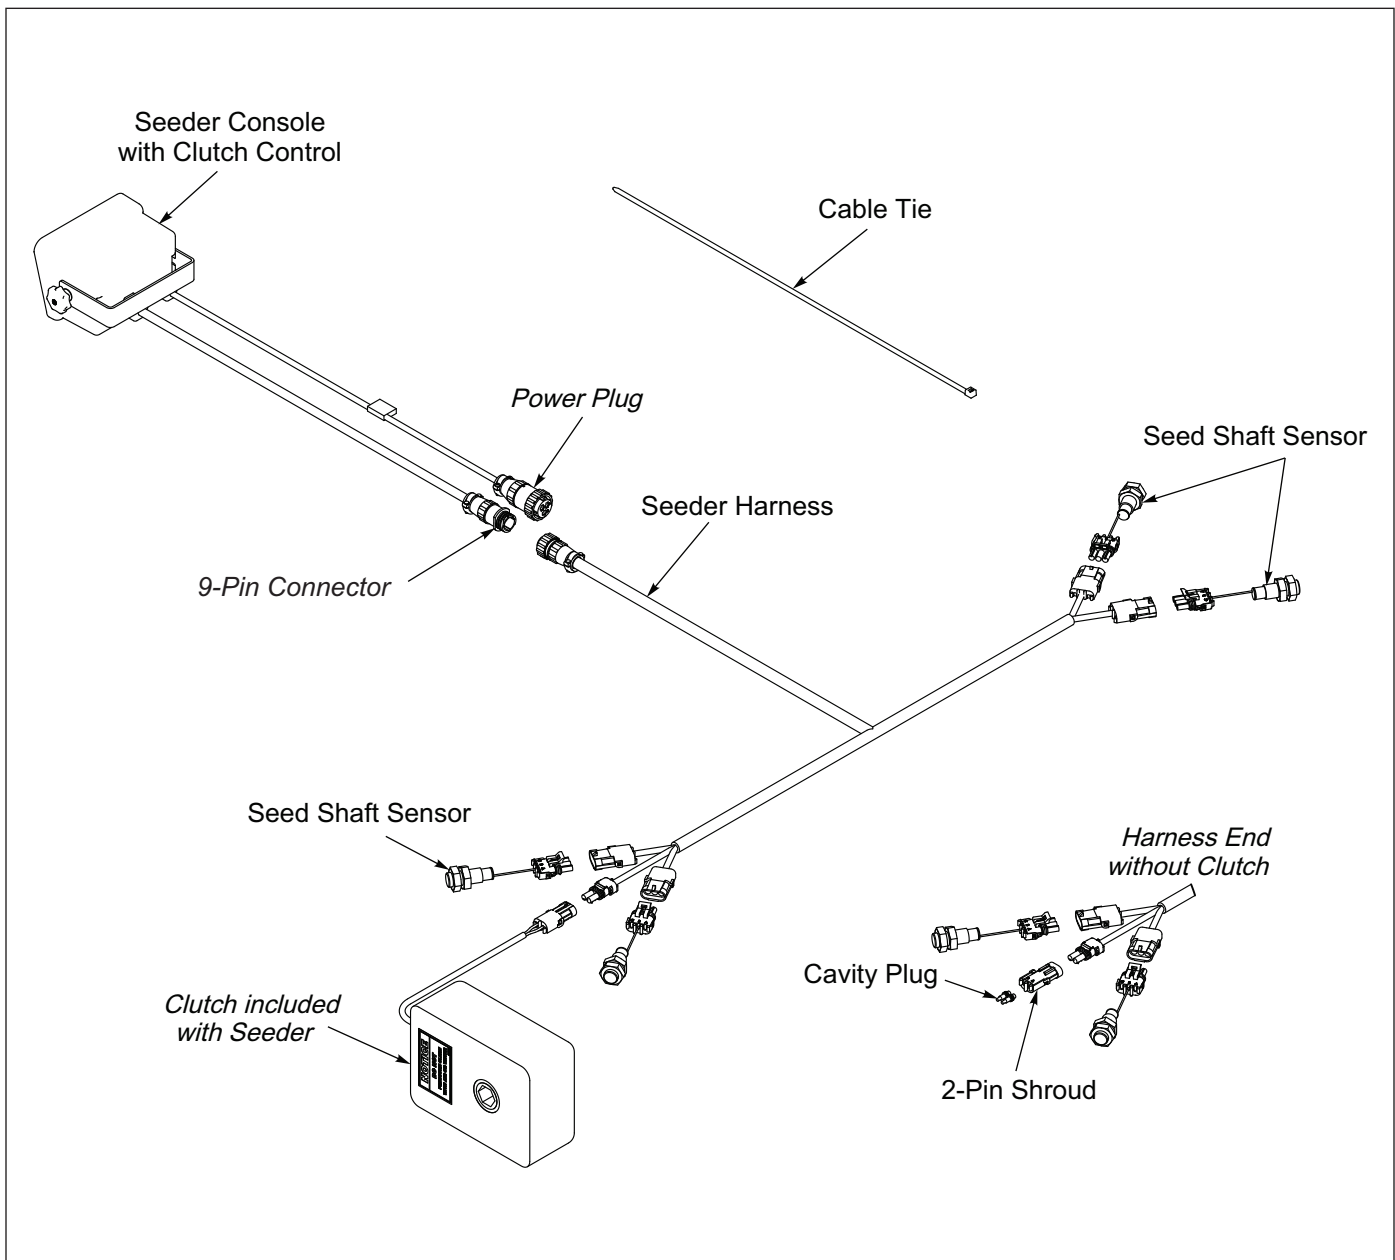

Figure 2-43: Sensor Schematic
5. On left side connect plug labeled "Electric Clutch Power" to the Electric Clutch lead. If you do not have an Electric Clutch, seal the plug end using a 2-Pin Shroud and Cavity Plug to protect it from the environment. **See Figure 2-43.**